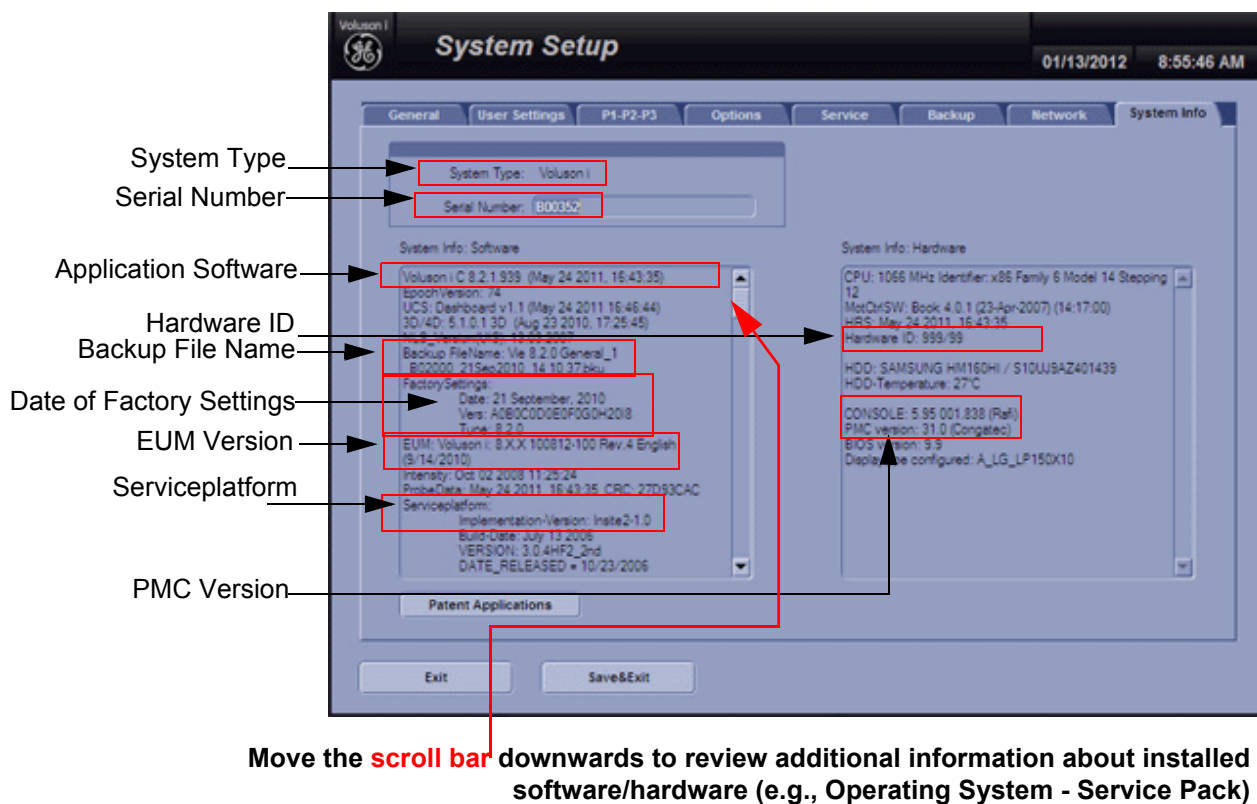

Figure 7-1 System Setup - System Info page (e.g., Voluson e)
- 2.) Vital system data (see: Figure 7-1 on page 7-2)